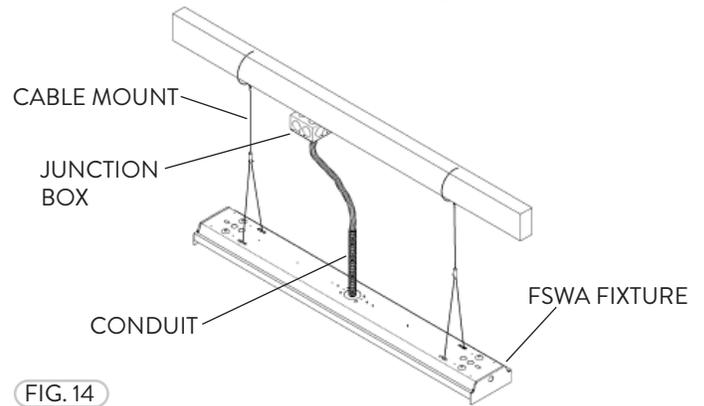

FIG. 14
- 5 Attach the Power Supply. Refer to the wiring diagram. The Cable Mount with Conduit and Junction Box (Fig. 14).